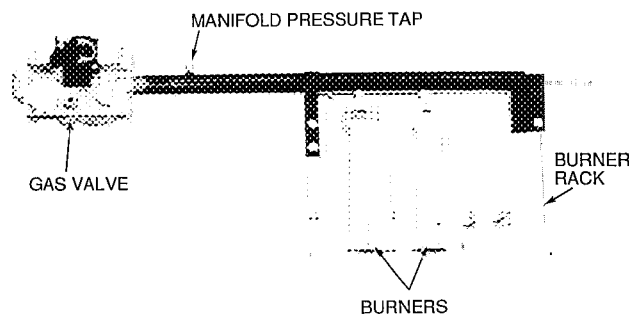

Fig. 37 — Burner Tray Details
12. Slide the burner tray out of the unit (Fig. 37).